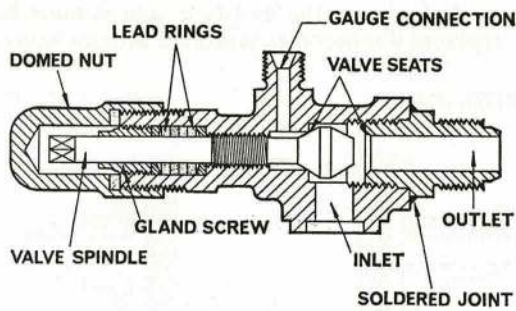

Fig. 5. DOUBLE-SEATED STOP VALVE
13. This device (Fig. 5) is fitted to enable parts of the system to be isolated from the compressor, and to enable gauges to be fitted without the introduction of air into the system. These valves are fitted to both suction and discharge sides of the compressor.